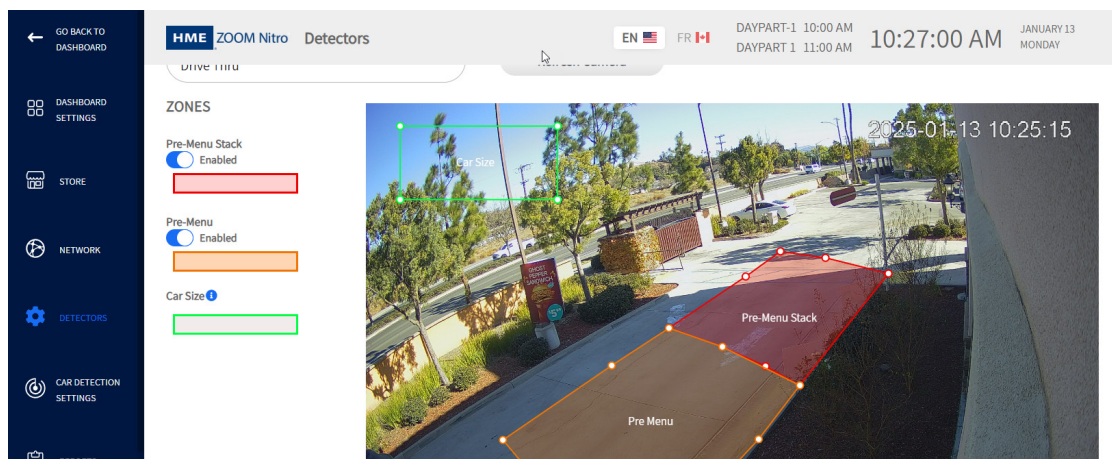

Fig. 29
13. When you move the cursor over a box, it becomes a hand which allows you to drag the box into position. The polygons have eight adjustable vertices, one on each corner and one on each side. After moving the box into position, grab any vertex and begin adjusting the box to match the Pre-Menu and Pre-Menu Stack zones you desire to capture. Fig. 29 shows both zones drawn to capture the drive-thru lane events.